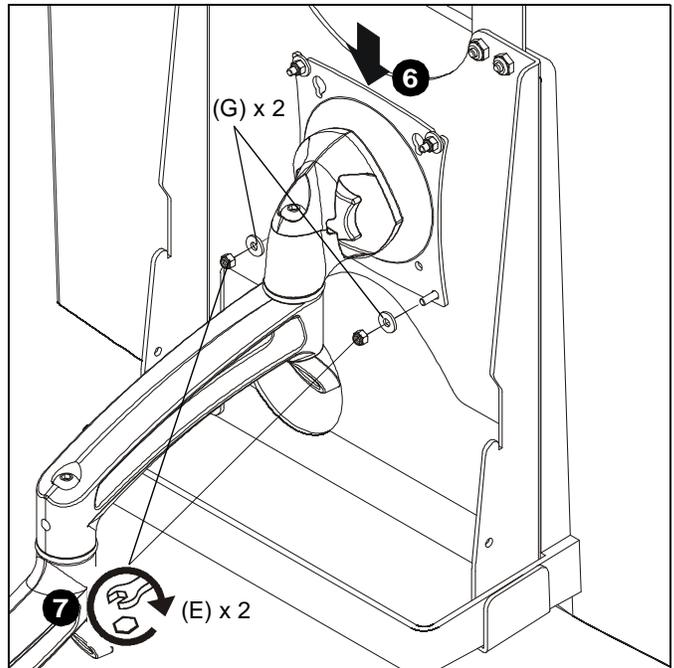

Figure 4
6. Lower interface bracket and display onto K2 Series mount faceplate by setting top two studs into top two mounting holes on faceplate. (See Figure 4)
7. Install two M4 locknuts (E) and two M4 washers (G) onto lower two studs on back of display. (See Figure 4)
8. Tighten all four locknuts (E). (See Figure 4)